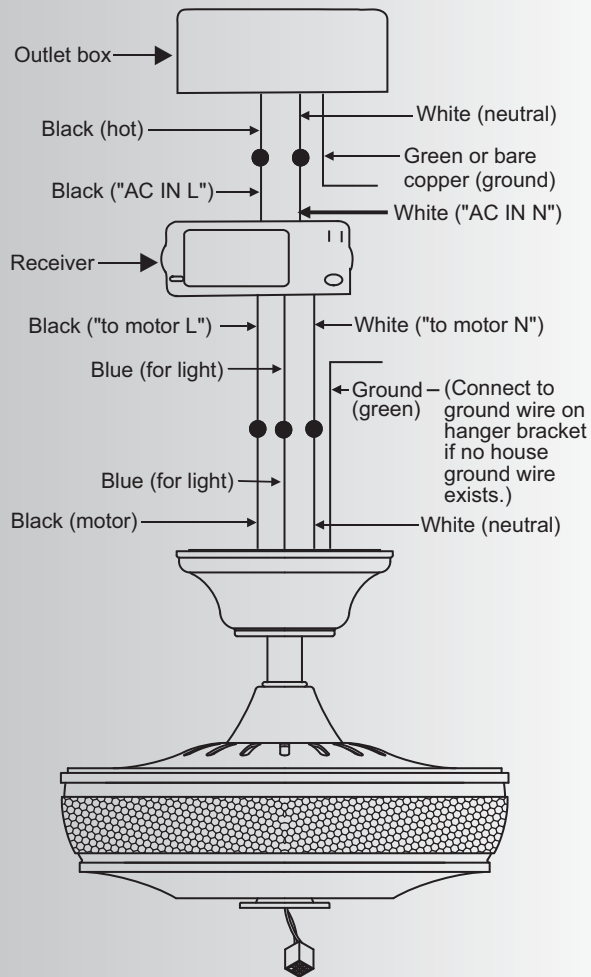

Fig. 14
**Step 2.** Motor to Receiver Electrical Connections: (Fig. 14) Connect the black wire from the fan to the black wire marked "TO MOTOR L" on the receiver.
Connections: (Fig. 14)
### Step 3. (Fig. 14) Receiver to House Supply Wires Electrical Connections:
Step 4. (Fig. 14) If your outlet box has a ground wire (green or bare copper) connect it to the fan ground wires; otherwise connect the hanging bracket ground wire to the mounting bracket. Secure the wire connection with a plastic nut provided. After connecting the wires, spread them apart so that the green and white wires are on one side of the outlet box and black and blue wires are on the other side. Carefully tuck the wire connections up into the outlet box.